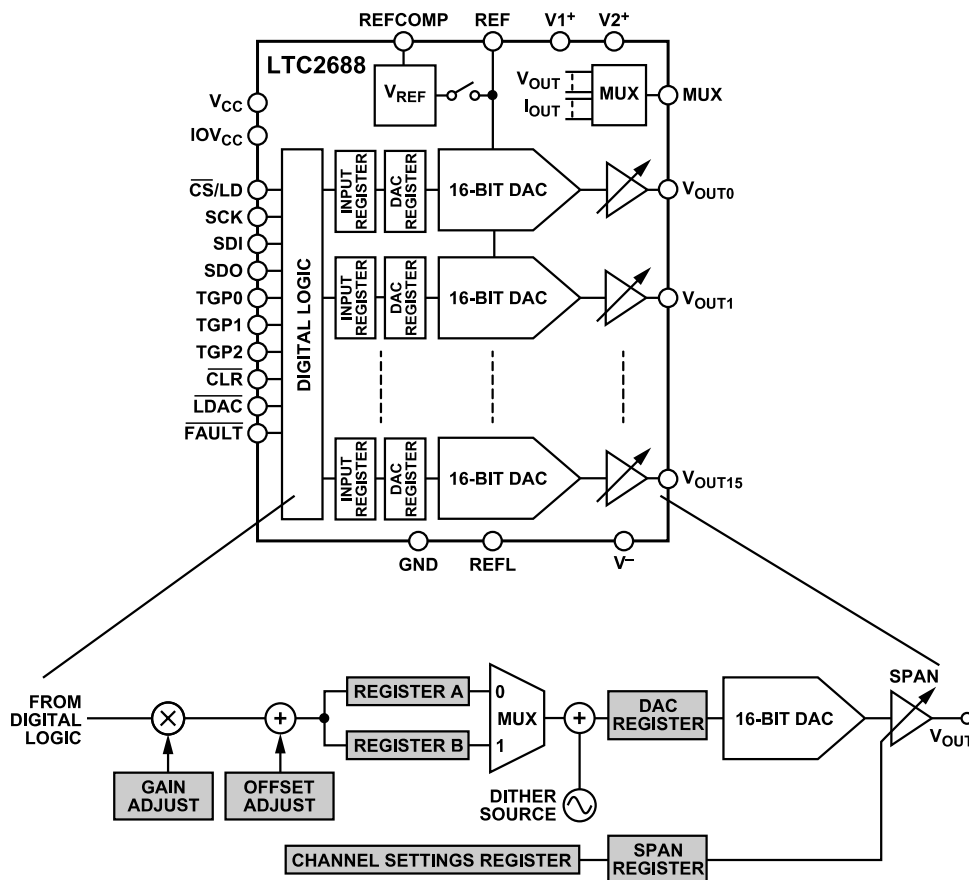

Figure 42. Block Diagram
- ▶ **Input register:** the write operation shifts data from the SDI pin into a chosen input register. The input registers are holding buffers. Write operations do not affect the DAC outputs directly. In the code data path there are two input registers, A and B, for each DAC register. Input Register B is an alternate input register used only in toggle and dither operation, whereas Input Register A is the default input register (see Figure 42).
- ▶ **DAC register:** the update operation copies the contents of an input register to its associated DAC register. The content of a DAC register directly controls the DAC output voltage or range. The update operation also powers up the selected DAC if it was in power-down mode. The data path and registers are shown in Figure 42. Updates always refresh both code and span data, but the values held in the DAC registers remain unchanged unless the associated input register values have been changed via a write operation. For example, writing a new code and updating the channel updates the code, but the span is unchanged. A channel update can come from a serial update command, an LDAC negative pulse, or a toggle operation.